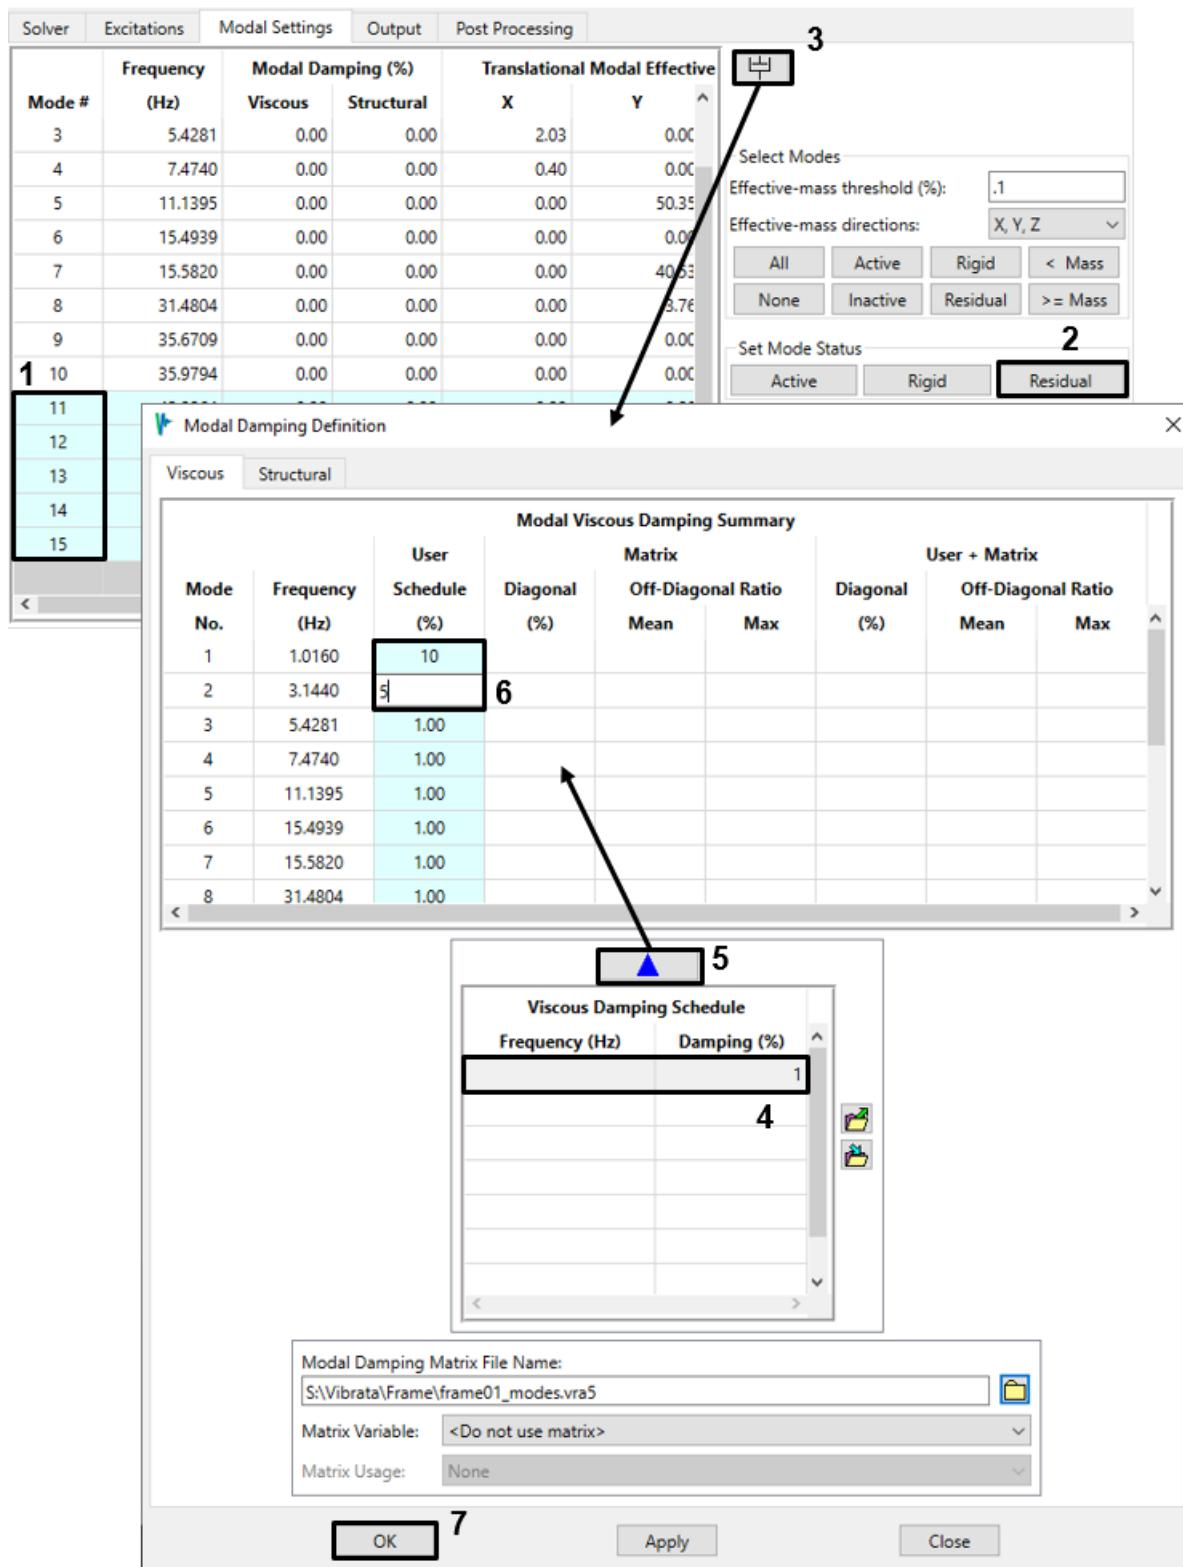

Figure 4-118. Set the damping of the model to 10% for mode 1, 5% for mode 2, and 1% elsewhere.
6. Go to the *Modal Settings* tab, select modes 11–15, and set their status as Residual modes. Next, open the damping dialog. Use the damping schedule to set the viscous damping to 1% for all modes, then key in damping of 10% for mode 1 and 5% for mode 2, as in Figure 4-118.